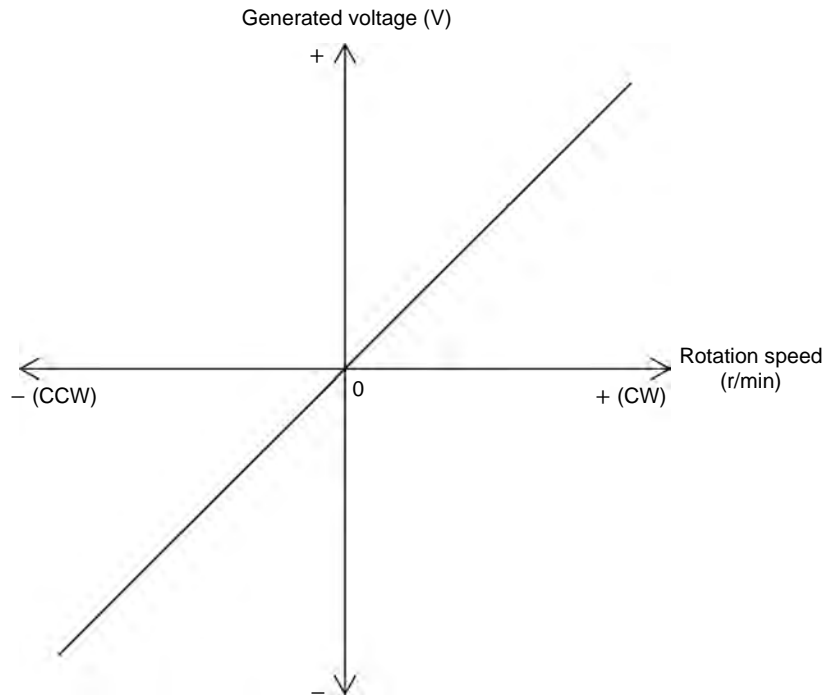

Figure 27. Generated voltage versus speed characteristic of a permanent magnet dc motor operating as a generator.
Figure 27 shows the generated voltage-versus-speed characteristic of a permanent magnet dc motor operating as a generator. The generated voltage is proportional to the rotation speed of the armature. This is because the higher the rotation speed of the armature, the higher the rate of change of the magnetic flux ($\frac{\Delta\Phi}{\Delta t}$) in the rotor wire loops, and thus, the higher the generated voltage. The polarity of the generated voltage depends on the direction of rotation of the armature. When the armature rotates in the clockwise (CW) direction, the generated voltage is positive. Conversely, when the armature rotates in the counterclockwise (CCW) direction, the generated voltage is negative.